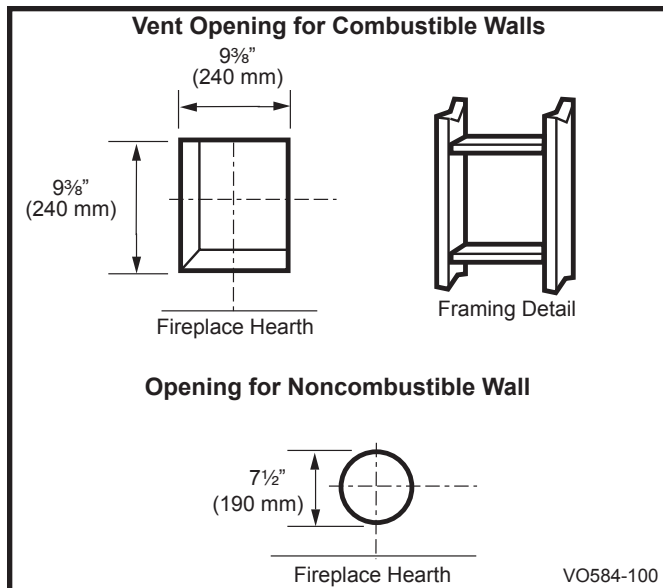

Fig. 32 Locate vent opening on wall.
Locate vent opening on the wall. It may be necessary to first position the fireplace and measure to obtain hole location. Depending on whether the wall is combustible or noncombustible, cut opening to size. (Fig. 32) (For combustible walls first frame in opening.)
**Combustible Walls:** Cut a 93/8"H x 93/8"W (240 mm x 240 mm) hole through the exterior wall and frame as shown. (Fig. 32)
1. Establish vent hole through the wall (Fig. 32)